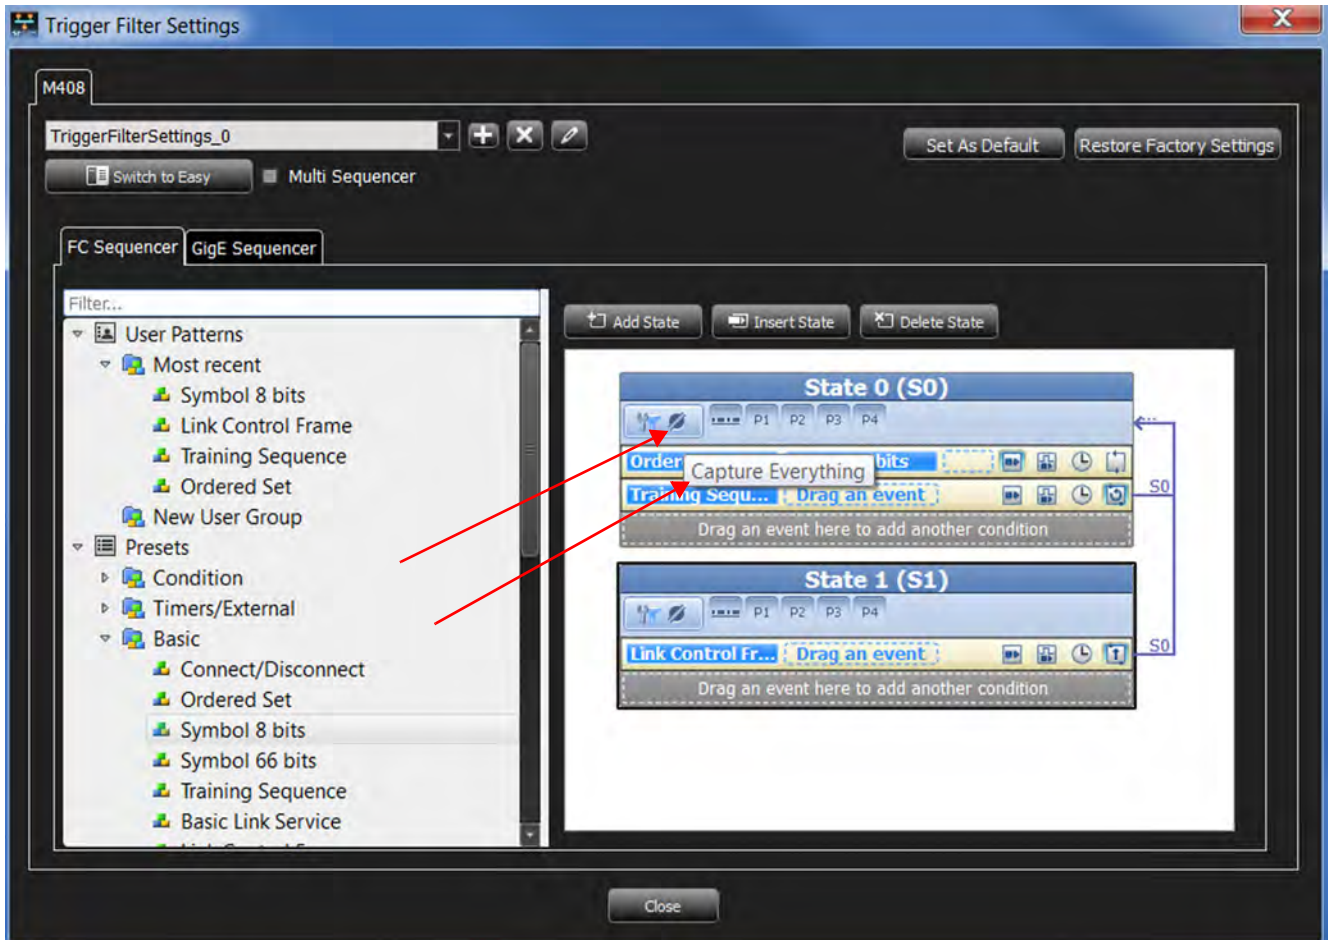

Figure 4.139: Capture Everything
- ❑ Choose a capture option by clicking on the Capture Everything  icon shown in the figure below. The Filter Settings window displays (Figure 4.139).